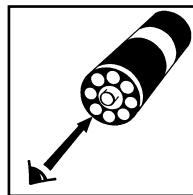

Figure 4
a. Low Range Comparator (fig. 4):